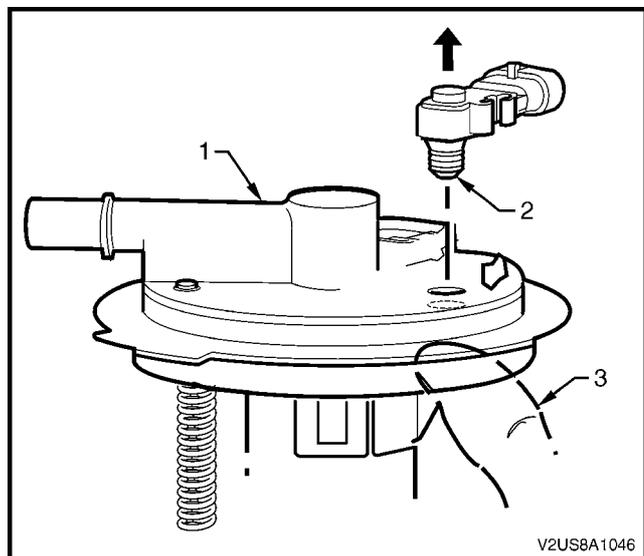

Figure 8A1 - 146
- 1 Check the rubber seal around the collar of the fuel tank pressure sensor opening port (2) for damage. If required, replace the fuel tank pressure sensor, refer to Figure 8A1 - 146.